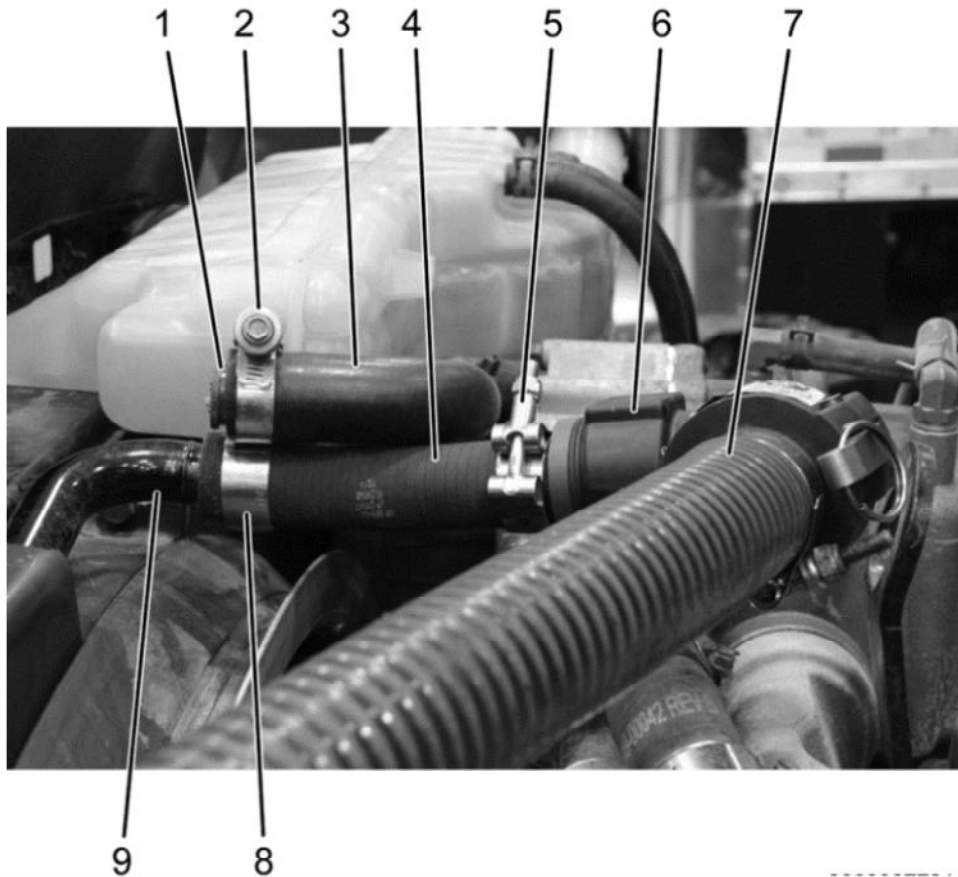

Figure 10: LTR Upper Hose Connections (Reverse)
5. Reverse hoses (**Figure 10**) and run cleaning management system for an additional 15 minutes
When reversing the hoses, you will have to install plug into LTR upper hose with hose clamp along with a hose onto LTR tube with clamp. See **Figure 10** below